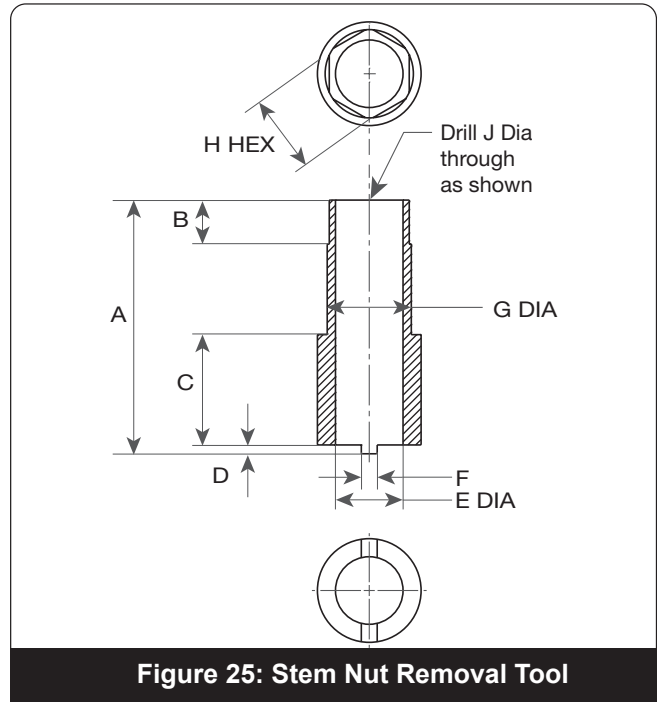

Figure 25: Stem Nut Removal Tool
1. Stem nut removal tool (see Figure 13a for part number). For manufacturing dimensions see Figure 25 and Table 7.